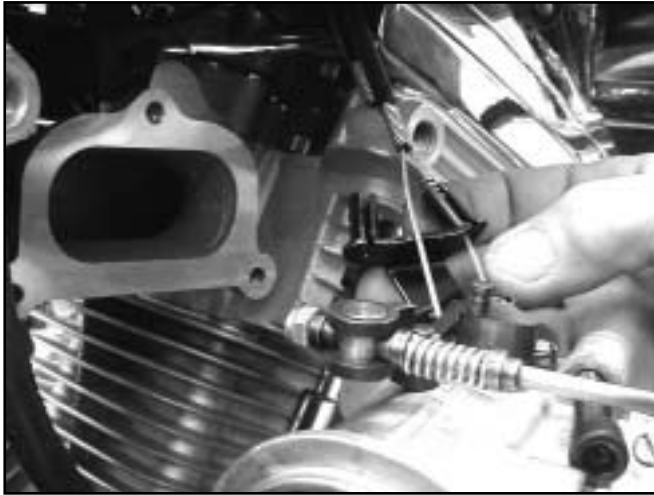

**Figure 10. Install Backing Plate**
- See Figure 10. Install the backing plate gasket (P/N 29676-00) and backing plate to the front of the carburetor using three studs (P/N 26447-99). Align the backing plate to the bracket by installing the two 1/4-20x5/8" flat head screws (P/N 3793A) to the mounting bracket. Do **NOT** tighten.